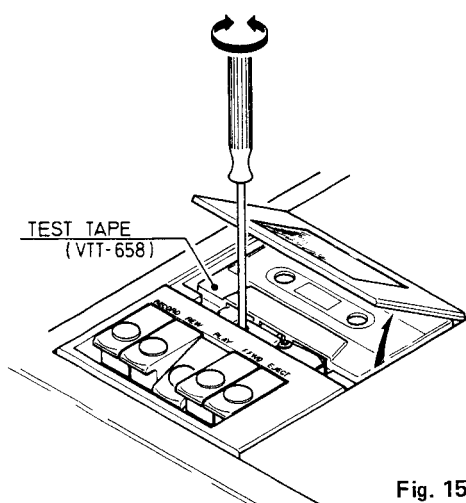

Fig. 15a
2. Mount VTT-658 (10kHz -15dB) test tape and set the unit in the PLAY mode. Adjust the head azimuth screw until the VTVM reading becomes maximum. (Fig. 15a, b)